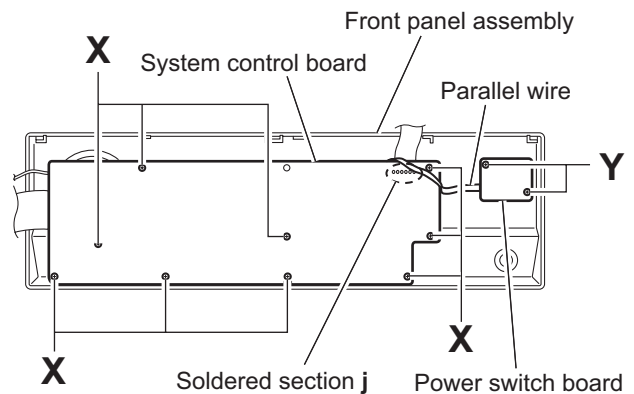

Fig.19
- (2) From the back side of the front panel assembly, remove the nine screws **X** attaching the system control board. (See Fig.19)
- (3) Remove the solders of the soldered section **j** on the system control board and disconnect the parallel wire. (See Fig.19)
- (4) Remove the two screws **Y** attaching the power switch board. (See Fig.19)